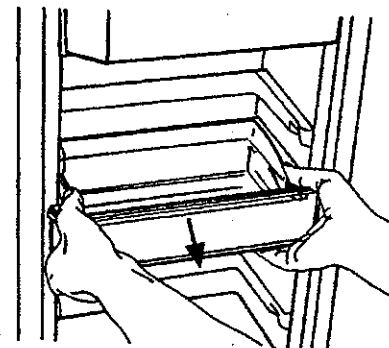

Figure 41
- f. Move bucket by holding lock tabs in and pulling bucket straight out. See Figure 41.